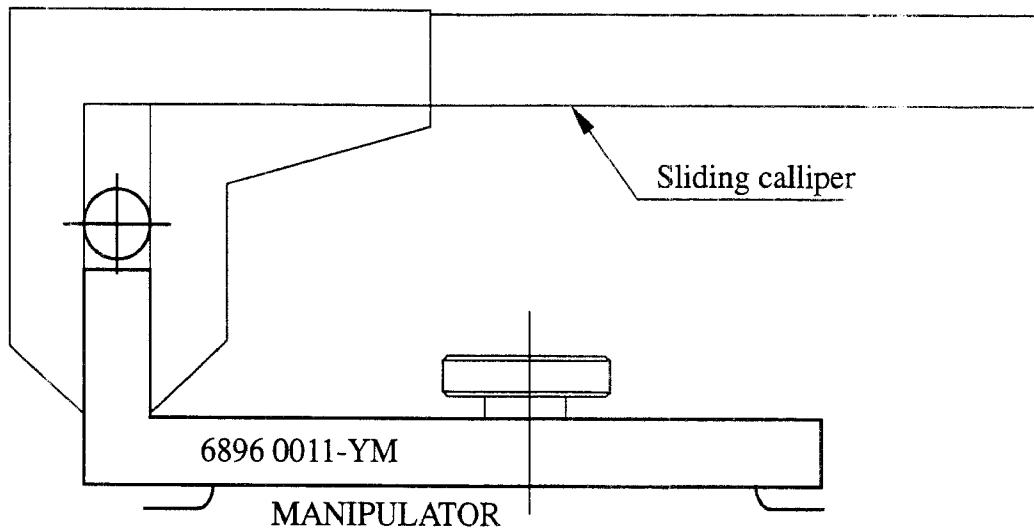

Figure 7 Aligning the pin and tool with a sliding calliper for axis 1.
- Align the pin and tool with a sliding calliper. See Figure 7.